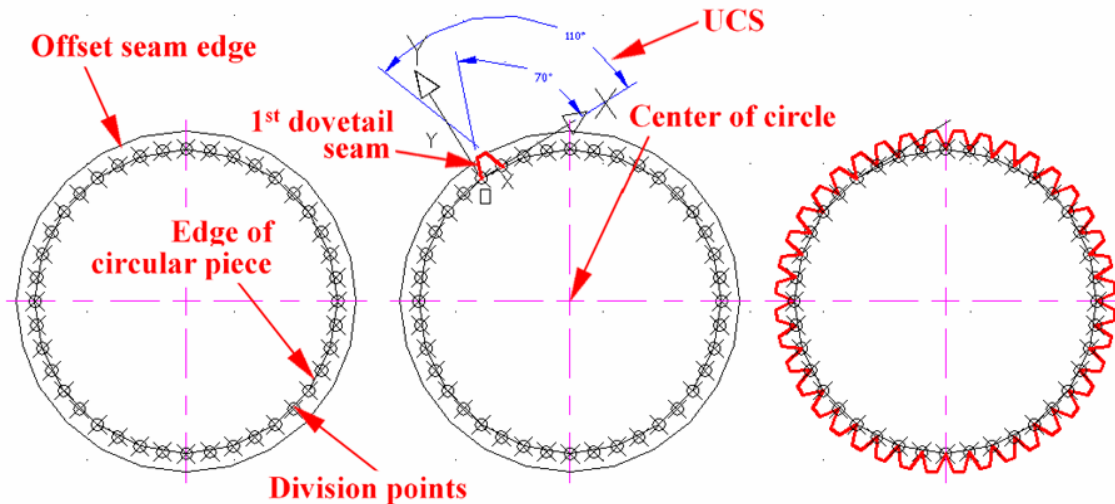

Figure 3A-3L: Creating dovetail seams on a circular edge without skipping any space.
**The “perfect” method:** The same method explained in the 5th Step of Section 1 of this module can be used to draw the dovetail seams along curvilinear edges with perfect tangency. In this method, the **Offset** tool can be used to create the outer edge line for the dovetail seams; the **Division** tool is used to divide the curved line into multiple segments; then the **UCS** tool with the **3 Point** option is used to rotate the **UCS** to a position where two neighboring division points are used as **Origin** and the **x-Axis** selection point; next, the **Line** tool with **Polar Coordinate Entry** method is used to create the angled side edges of the dovetail seams; and next, the **Trim** tool is used to trim off the unneeded segments and complete the first dovetail seam (Figure 3A-3L). For a circular edge, the **Array** tool with the **Polar Array** option can be used to create the remaining dovetail seams (Figure 3A-3M and Figure 3A-3M):